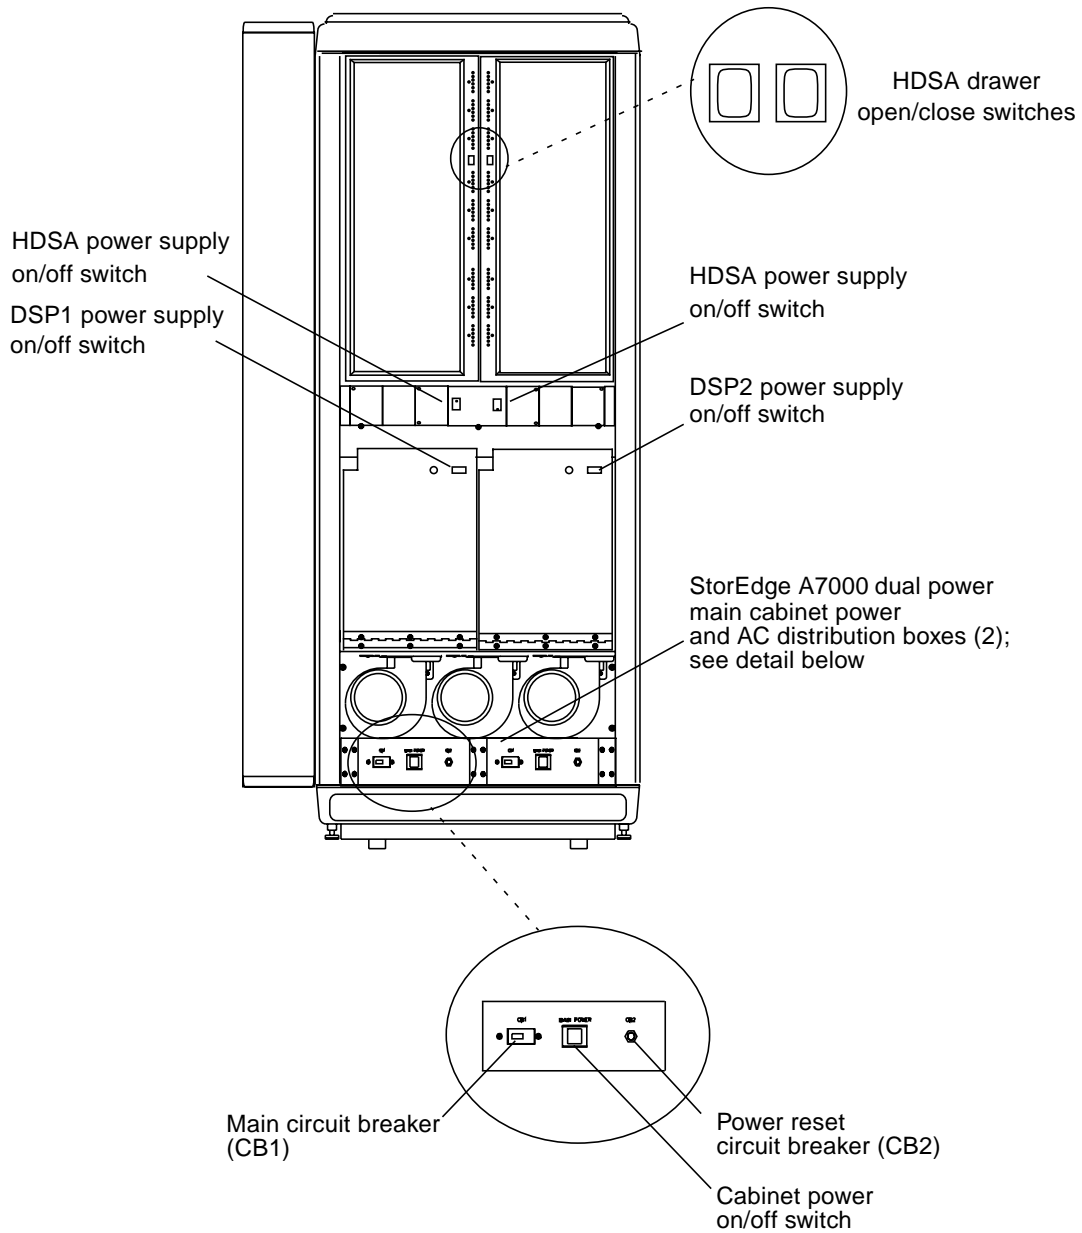

FIGURE 5-4 HDSA Drawer Open/Close and Power Switches Inside Cabinet Front
5. **At the left AC distribution box, throw the main circuit breaker switch CB1 to the right (ON). See FIGURE 5-4.**